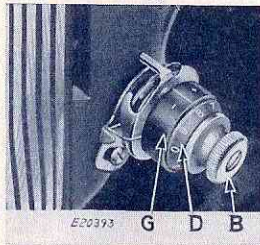
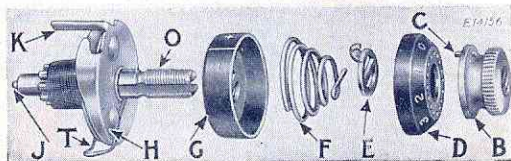

FIG. 18. NEEDLE THREAD TENSION
Fig. 19
Caution—It is important for the tension thumb nut (B, Fig. 18) to have a firm fit on tension stud (O, Fig. 19, page 22) to keep the numbered dial (D) in the position set for the required tension. To remedy a loose fit of the nut, remove parts B, D, E, F and G, Fig. 19, and slightly spread the stud, then reassemble the parts as instructed on pages 22 to 25 inclusive.
The numbered dial (D, Fig. 18) is marked with numbers ranging from 0 to 9 which indicate different degrees of tension that can be produced. The numbers do not denote a particular size of thread. By noting the number which is opposite the center line between the plus and minus signs, on the indicator (G) when set for a satisfactory tension on the work being stitched, the work can be readily reverted to when a change is made in the tension or size of thread.
Turn the thumb nut (B, Fig. 19) to the left until it stops at "0" on the numbered dial, then
Note. It is not necessary to remove the stud (O, Fig. 19) from the machine arm in order to disassemble the thread tension. It is shown removed, in Fig. 19, only for the purpose of illustration.
First make sure that the tension releasing pin (J), only the end of which is shown in Fig. 19, is in place in the stud (O).
Guide the tension disc assembly onto the stud so that the extension (K, Fig. 19) of the thread guard enters the hole in the machine arm, and the tail (inside the coil) of the thread take-up spring enters one of the grooves in the stud. Next replace the indicator with the large open side facing the
end of the stud so that the plus and minus marks will be at the top (with the minus sign at the left) and hold the parts, thus assembled, against the shoulder of the stud. Then insert the tension spring (F, Fig. 19) in the indicator with the first (half) coil of the spring straddling the lower half of the stud. Guide the stop washer (E) onto the stud so that the extension will be above the tension stud.